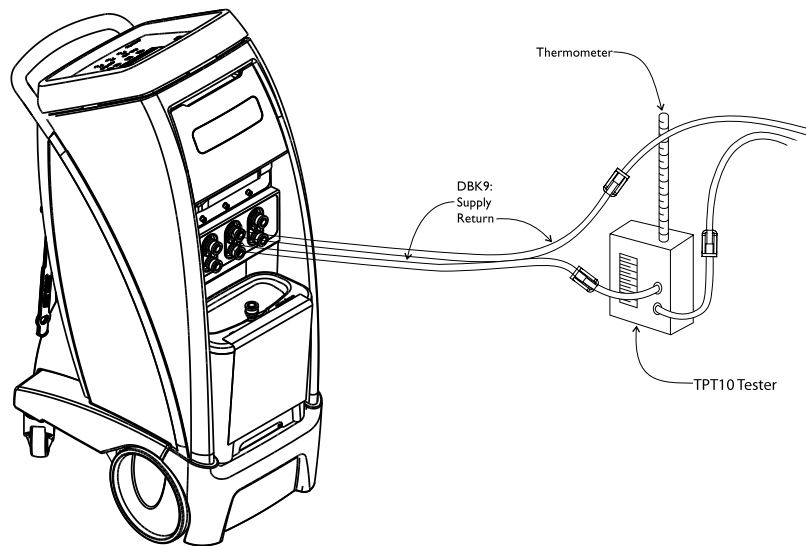

Figure 66: Connect to controller
1. Connect two 12 inch loop back hoses to ports 2 and 3 (Figure 66 on page 81).